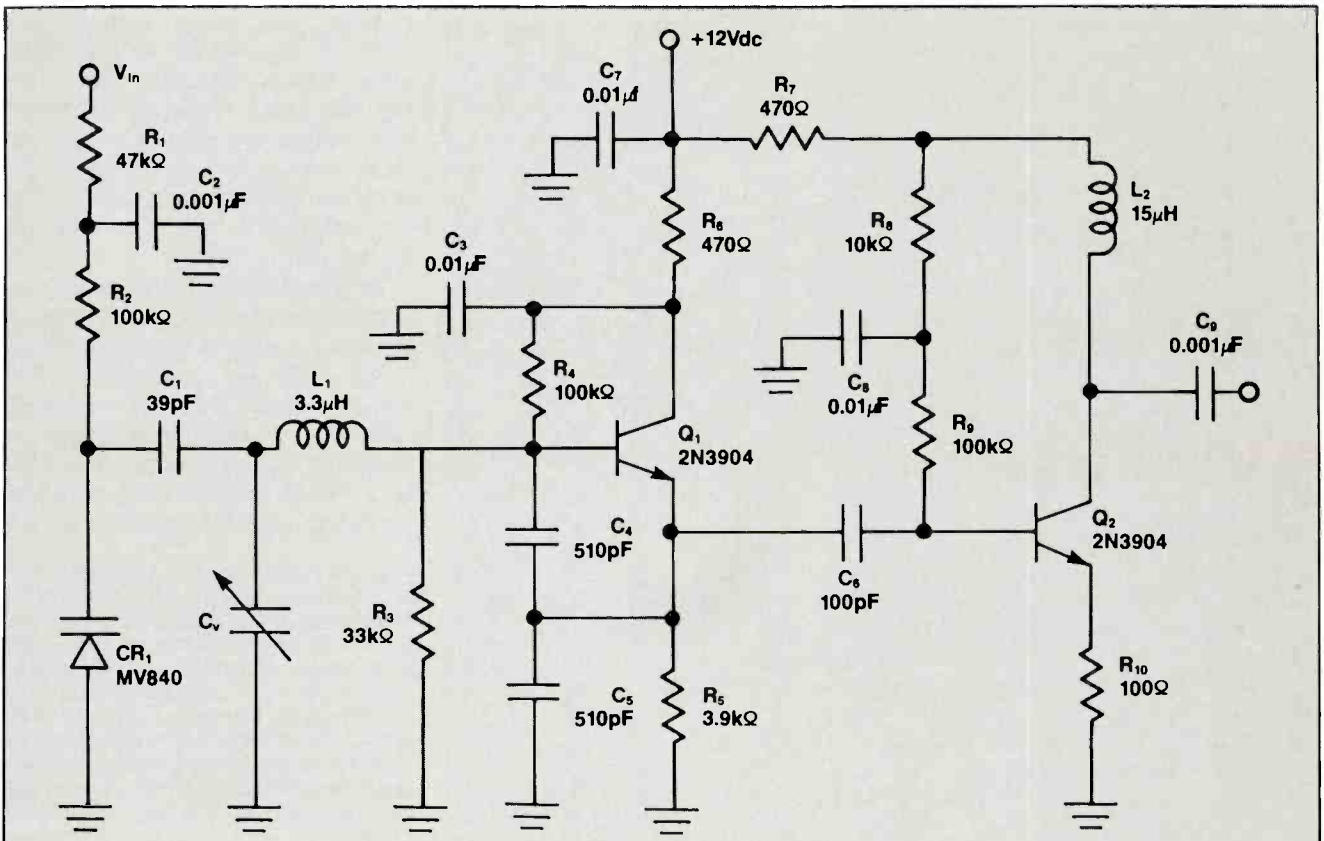
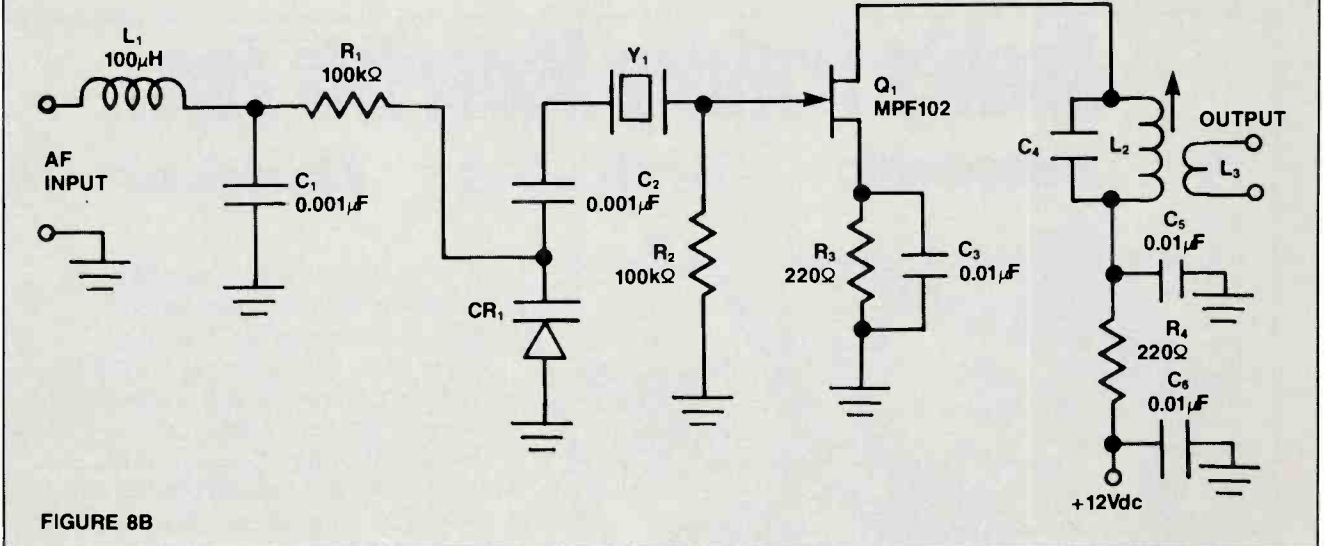

FIGURE 8A
FIGURE 8B
**Figure 8.** The varactor-tuned oscillator circuit in Figure 8A is LC tuned, and a varactor (CR1) makes up a portion of the total tank capacitance. The variable capacitor (Cv) also is used as the main tuning capacitance. The varactor capacitance is used to shift the resulting operating frequency in accordance with the applied ac signal (Vin). The output RF signal is either frequency-modulated or swept, depending upon whether Vin is an audio signal or sawtooth. In the low-powered, crystal-controlled FM transmitter in Figure 8B, the crystal will oscillate at a specific frequency that is somewhat dependent upon circuit capacitance. By varying the capacitance, you also can vary the frequency of oscillation. In this form of transmitter circuit, the crystal can be directly modulated.
Two additional varactor-tuned oscillator circuits are shown in Figure 8. The circuit in Figure 8A was found in a sweep generator project. The oscillator is LC-tuned, and a varactor ( $CR_1$ ) makes up a portion of the total tank capacitance. The variable capacitor ( $C_v$ ) also is used as the main tuning capacitance. The varactor capacitance is used to shift the resulting operating frequency in accordance with the applied ac signal ( $V_{in}$ ). The output RF signal is either frequency-modulated or swept, depending upon whether  $V_{in}$  is an audio signal or sawtooth.
The circuit in Figure 8B is representative of low-powered, crystal-controlled FM transmitters. A crystal will oscillate at a specific frequency that is somewhat dependent upon circuit capacitance. When buying crystals, always specify the calibration capacitance at which the frequency is guaranteed. By varying that capacitance, you can also vary the frequency of oscillation. In this form of transmitter circuit, the crystal can be directly modulated. Varactors also are used in reactance modulator circuits. The range of linear modulation is limited both by the crystal characteristics and by the normal non-linearity of the varactor V-vs.-C curve. Thus, a low-frequency oscillator typically is used, and then a chain of frequency multipliers raises both the operating frequency and the deviation ( $\Delta F$ ) to the proper level.